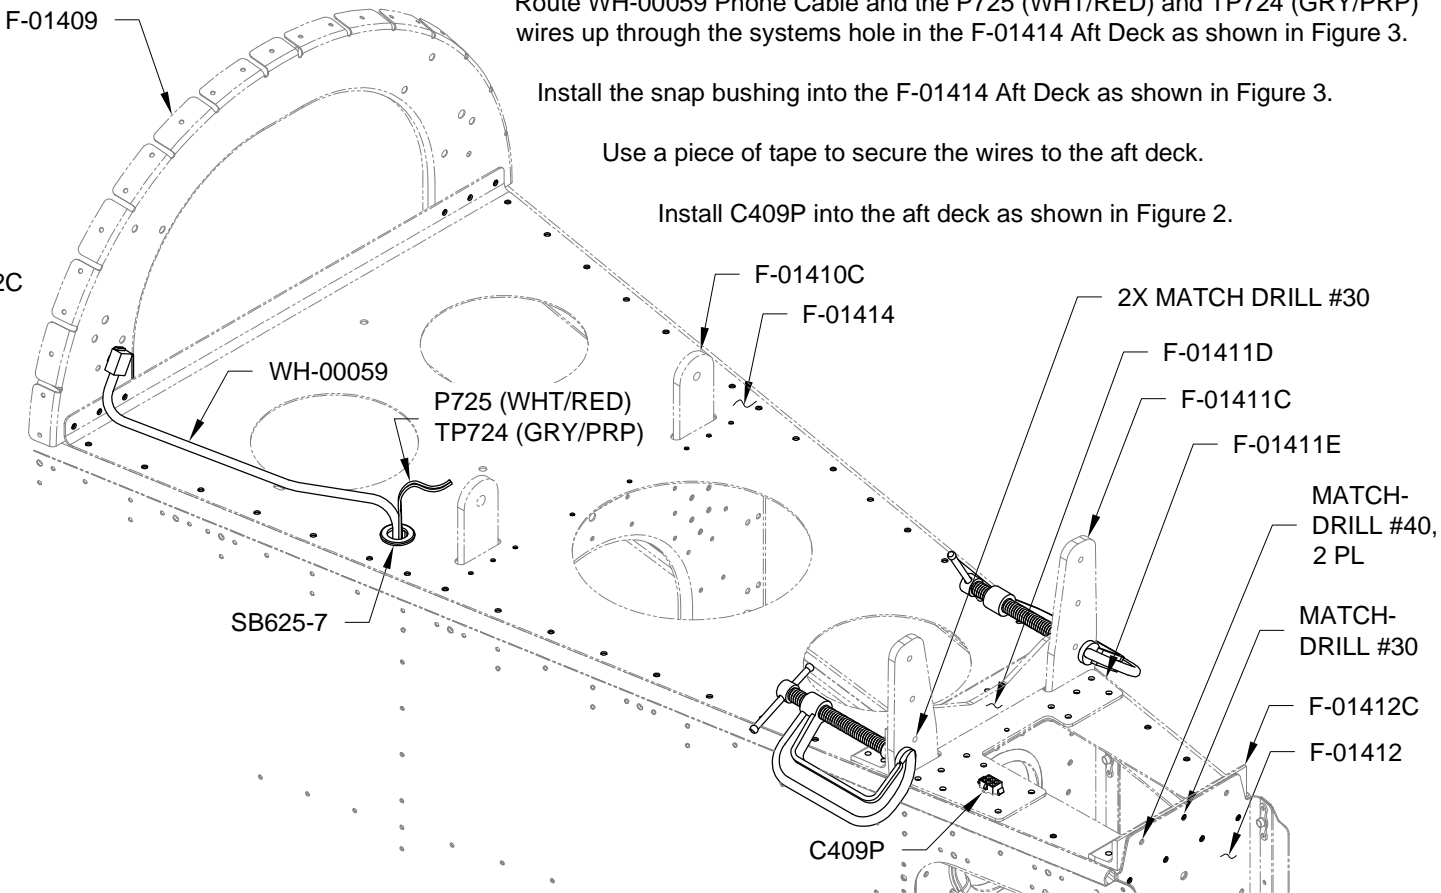

FIGURE 3: AFT DECK
Step 5: Clamp and Match-Drill #30 the F-01411D Horizontal Stab Attach Bar Support Angle to the F-01411C Attach Bars as shown in Figure 3.
Step 6: Match-Drill #30 and #40 the holes in the F-01412 Bulkhead into the F-01412C Deck Angle as shown in Figure 3.
Step 7: Rivet the F-01414 Aft Deck, F-01412C Deck Angle, F-01411E Deck Doubler, F-01411D Horizontal Stab Attach Bar Support Angle and F-01409 Frame to the Aft Fuselage as shown in Figure 2 and Figure 3.
Route WH-00059 Phone Cable and the P725 (WHT/RED) and TP724 (GRY/PRP) wires up through the systems hole in the F-01414 Aft Deck as shown in Figure 3.
Install the snap bushing into the F-01414 Aft Deck as shown in Figure 3.